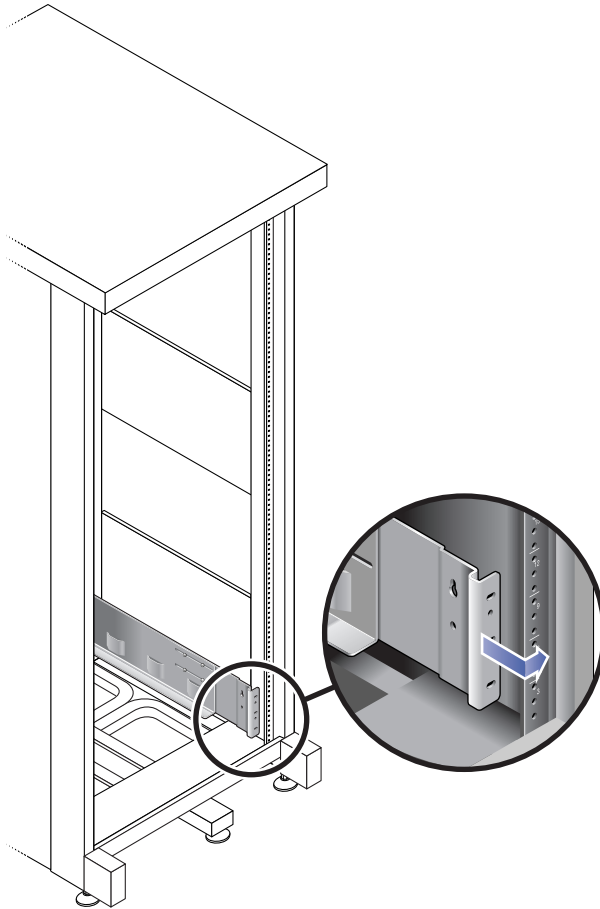

FIGURE 2-17 Adjusting the Length of the Left Rail at the Back of the Cabinet
- c. At the back of the cabinet, adjust the length of the rail as needed to fit the cabinet, and position the rail flange over the face of the cabinet rail (FIGURE 2-17).